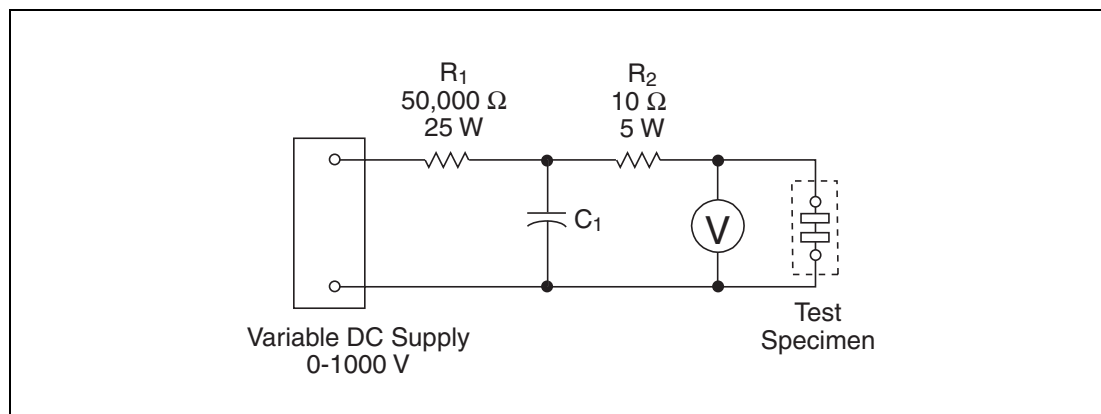

Figure 4.8 UL 497 Breakdown Voltage Measurement
- Breakdown Voltage Measurement — Arrestors are to be tested in the protector blocks or panels in which they are intended to be employed. Arrestors are required to break down within $\pm 25\%$ of the manufacturer's specified breakdown rating. In no case shall the breakdown voltage exceed 750 V peak when subjected to the strike voltage test shown in Figure 4.8. At no time during this test will the supply voltage be increased at a rate greater than 2000 V/ μ s.